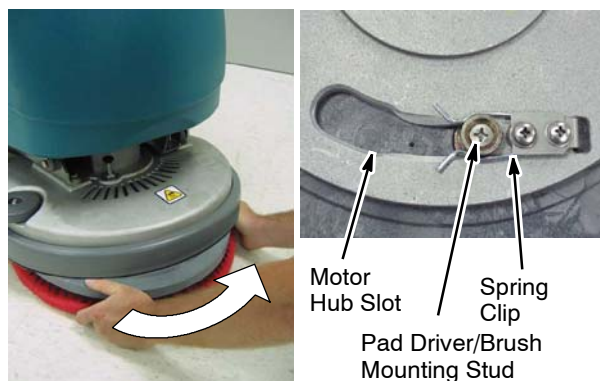

FIG. 11
- Align the pad driver/brush mounting studs with motor hub slots and give the pad driver/brush a quick counter-clockwise turn to engage spring clip (Figure 11).